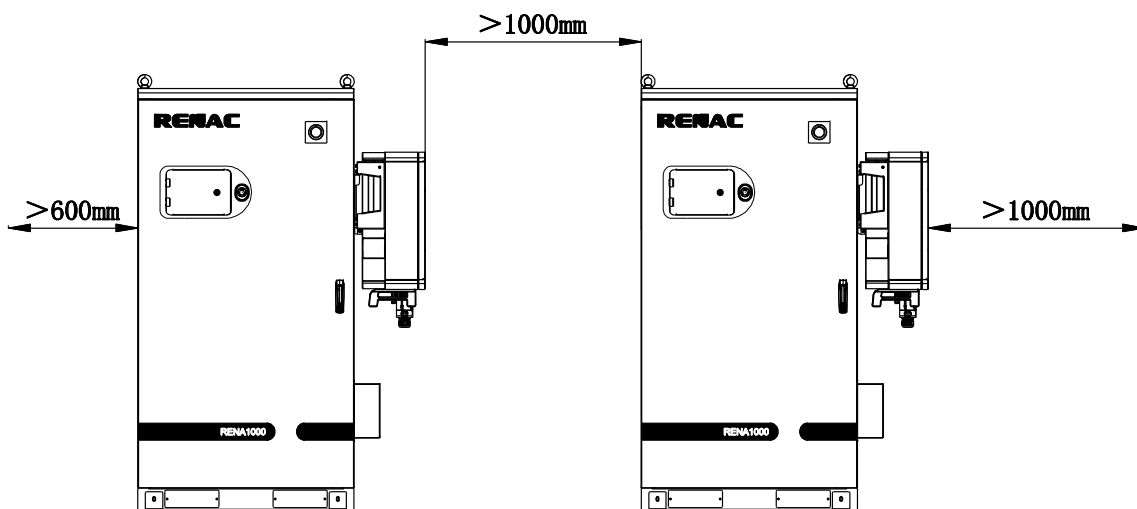

Figure 8-2 Recommended installation space for device
- 1) Select a suitable environment and ground according to section 4.1, and the site area meets the installation distance. The installation distance is as shown in the Figure 8-2.